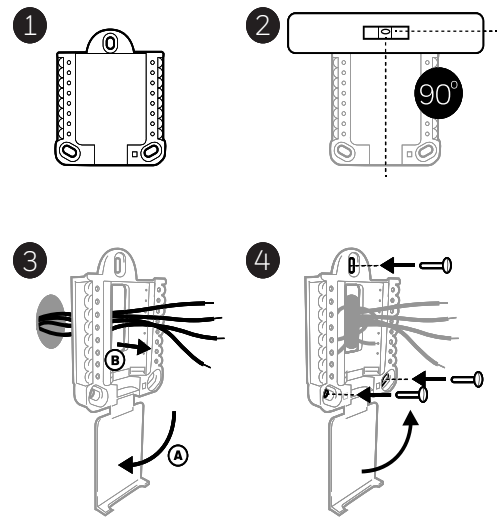

Fig. 10.
1. Open package to find the UWP. See Step 1 in Fig. 10.
2. Position the UWP on the wall. Level and mark hole positions. See Step 2 in Fig. 10. Drill holes at marked positions, and then lightly tap supplied wall anchors into wall using a hammer. Drill 7/32" holes for drywall.
3. Pull the door open and insert wires through the wiring hole of the UWP. See Step 3 in Fig. 10.
4. Place the UWP over the wall anchors. Insert and tighten mounting screws supplied with the UWP. Do not over-tighten. Tighten until the UWP no longer moves. Close the door. See Step 4 in Fig. 10. Use 3x supplied screws #8 1-1/2".